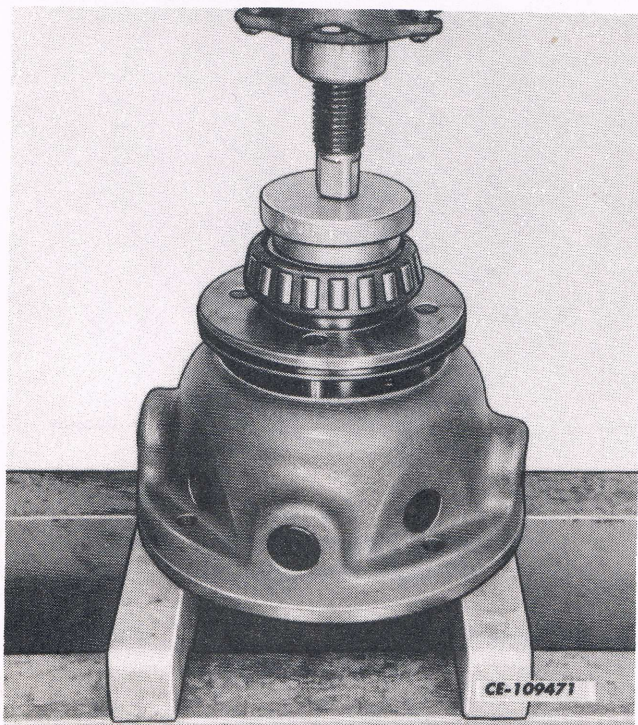

Fig. 15
5. Press the smaller tapered roller bearing on the carrier hub until it bottoms against the shoulder of the hub. See Fig. 15.